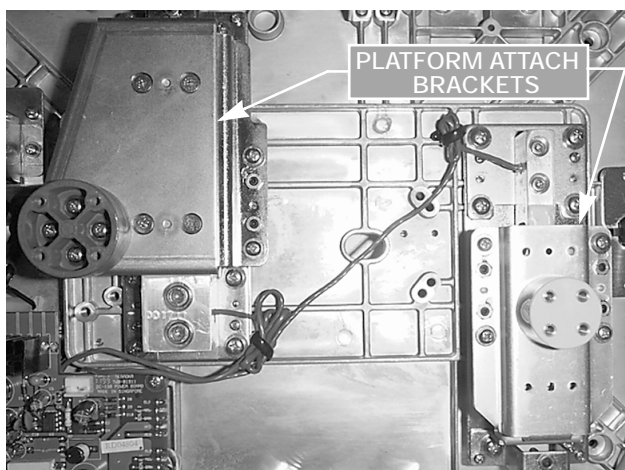

Figure 2-14. Remove Platform Attach Bracket
6. Remove four machine screws securing the platform attach bracket (Figure 2-14) to the load cell bracket. Remove platform attach bracket.